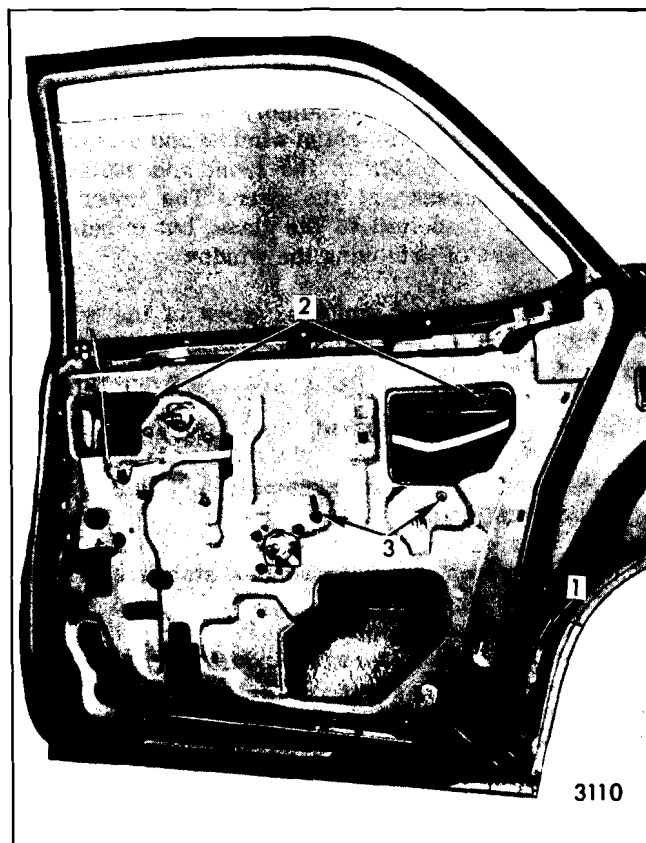
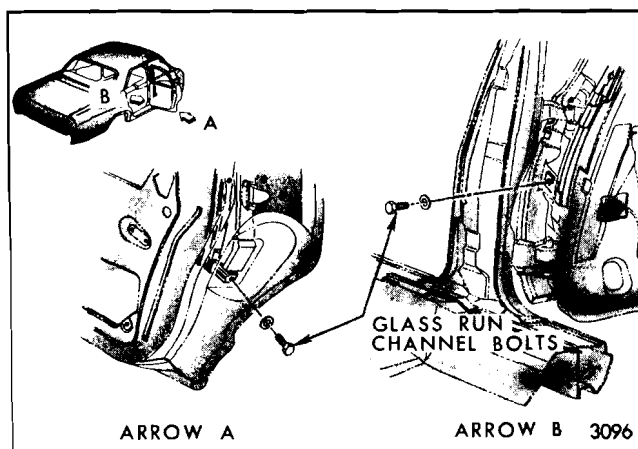

Fig. 6-121—Rear Door Window Removal and Adjustments - "B" Closed Styles
Fig. 6-122—Glass Run Channel Retention "B" Closed Styles
2. Remove glass run channel attaching bolts (Arrows "A" & "B" Figure 6-122).
3. Partially lower rear door window, remove lower sash channel cam to glass attaching stud nuts ("2", Figure 6-121). Press lower sash channel cam inboard to disengage from attaching studs and lower window regulator to full-down position.
door glass due to misalignment of the glass run channel (Arrow "A" and "B", Figure 6-122). In addition, the door window inner panel cam is adjustable which can correct a rotated (cocked) front door window ("3", Figure 6-121).